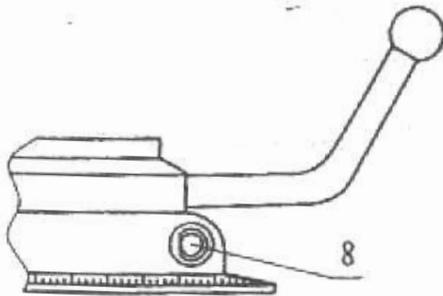

Fig. 4-2
- Pull out on the spindle move/lock handle 6 and turn the dial micro-adjustment handle 8 to the position where the flat side is facing inward as indicated in fig.4-2.